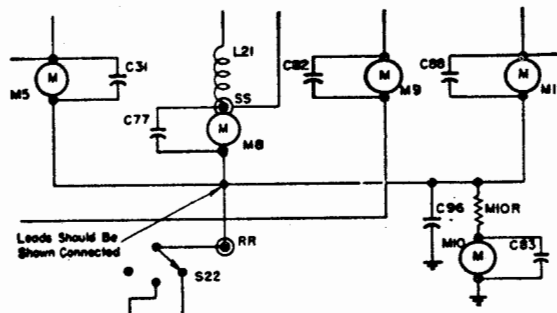

FIGURE 1.--Correction in schematic diagram of TBL-13
- "For power connections, see Figure 1 of Temporary Correction T-3 in the front of this manual."
A correction should be made in the schematic diagram (drawing 7300720) which applies to the 220/440-volt, 3 phase, 60 cycle, a-c power supply of the model TBL-13 transmitter. The diagram appears in two books; the model TBL-13 preliminary instruction book, and the final instruction book for models TBL-5/6/7/12/13, NAVSHIPS 900,381. The lead from the second amplifier plate-current meter (M-8) is connected to the leads from meters M-5 and M-11, and the diagram should be altered to show the connection as in Figure 1.